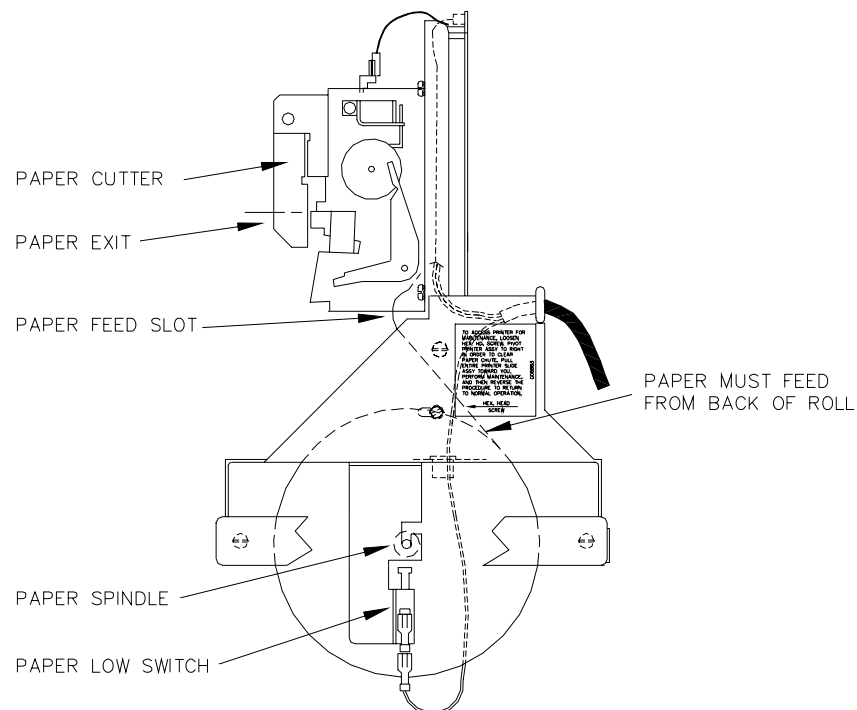

Figure 27-4. Printer Side View
5. Make sure the paper feeds easily out of the paper cutter. Figure 27-4 shows a side view of the paper path.